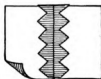

FIGURE 85
*Pinking* (Figure 85). — Press the seam and pink (notch) the two raw edges with a pinking machine or by hand. If the pinking is done by hand, care must be taken to keep the notches uniform. Press the seam open, after pinking is completed. This method of seam finishing is one of